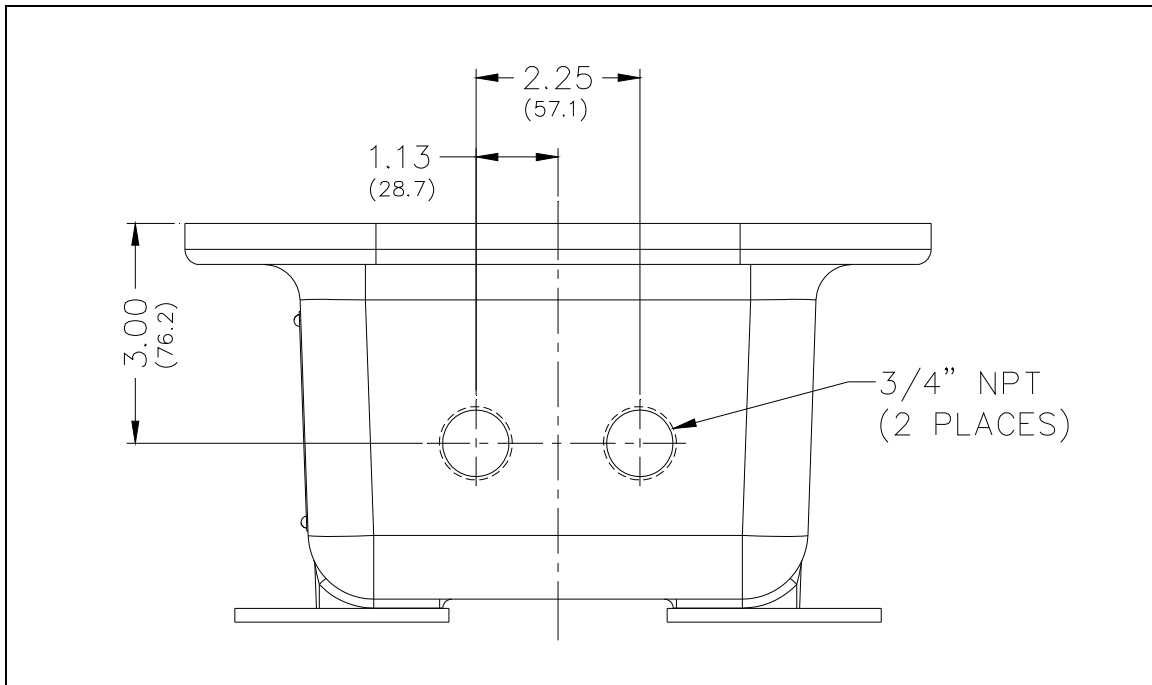

Figure 6. Model 352 Series Conduit Entries
- All conduit NPT plugs (blanking elements) must be explosion-proof with a Type 4X rating (see Figure 6 for the NPT conduit entries).